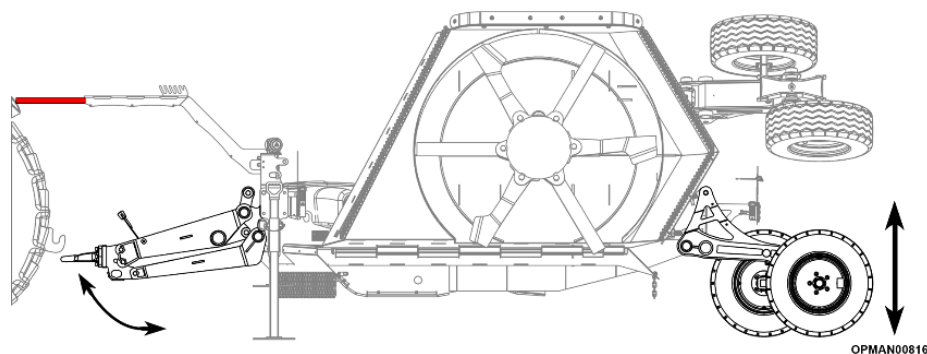

Figure 4.7 – Towing Eye Height Adjustment
- 4.4.2.4 Return to the tractor and start the engine and adjust the height of the centre axle using the tractors hydraulic control levers/buttons until the same height is achieved between the towing eye and clevis hitch of the tractor; see Figure 4.7.
- 4.4.2.14 For tractors fitted with a fixed pick-up hitch, adjust the centre deck height via the tractor hydraulics so the stand can be fixed at the correct height with the securing pin; see Figure 4.7.